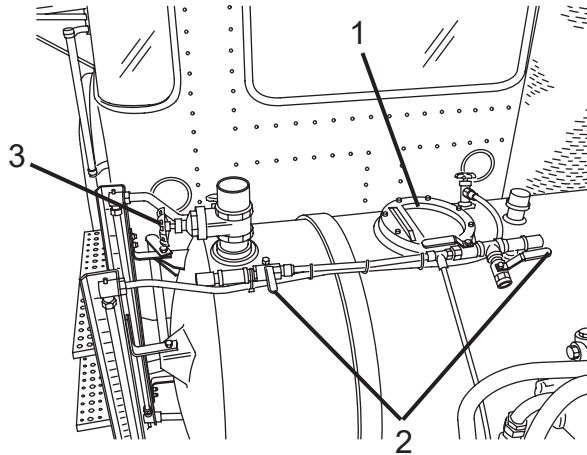

Figure 166
6. Check flopper valve (Figure 166, Item 1) for free movement, and make sure it seats properly.
7. Check valves (Figure 166, Items 2 and 3) to make sure they move freely.